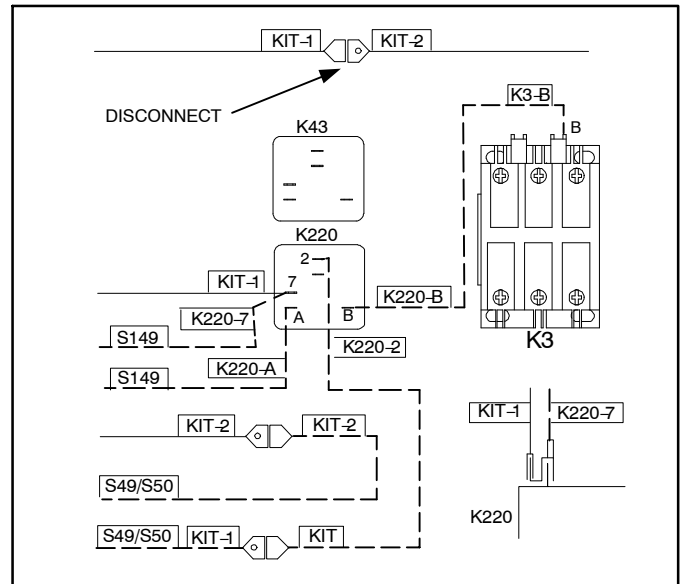

Figure 8. Installing both Float Switch with Freezestat Kits
- 6.2. Make wiring connections according to figure 8 using harnesses provided in kits.
- 6.2.2. Connect factory wire marked **KIT-1** to float switch kit harness wire marked **K220-7** receptacle / tab combination that was just connected to the relay in step 6.2.1. (see figure 8).
- 6.2.5. Make all other wiring connections as illustrated in figure 8 and per wire markings. Also see provided unit wiring diagram.